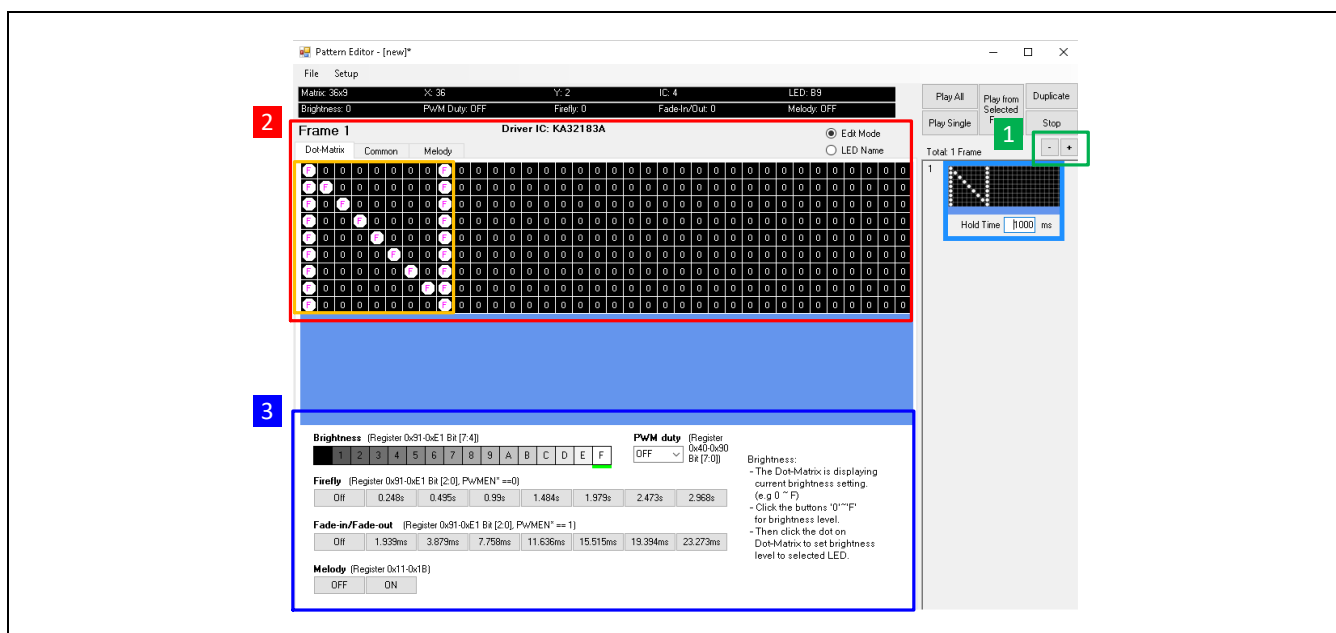

Figure 1-4 Editing the LED Patterns
4. In pattern editor screen, click “+” button to add multiple frames of LED pattern and configure hold time for each frame. User can click dot matrix for creating LED pattern in the red box and configure the parameters of each LED(e.g. Brightness, Firefly and Fade-in/out, and so on), as shown in Figure 1-4.